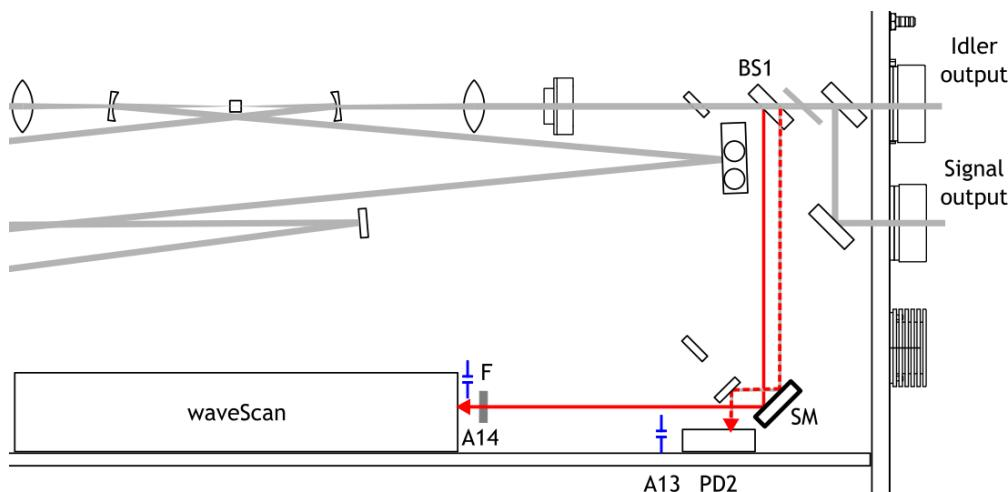

Figure 5.20.: Diagnostic beam alignment - step 3: Align SM to maximize the signal spectrometer peak.
- Remove both apertures A13 and A14 and monitor the spectrometer display on the software GUI whether a signal peak already appears (Fig. 5.20).